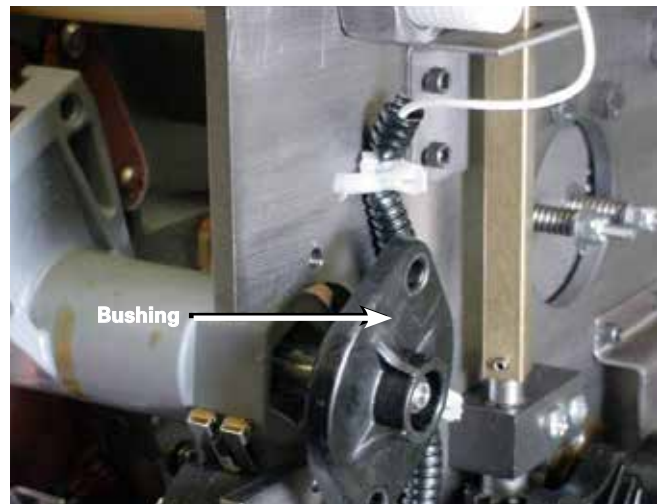

Figure 5. Removal of bushing.
3. Using a 7/16" wrench, loosen and remove both bushing-mounting bolts. See Figure 5.
4. Remove the bushing from the reversing movable contact shaft. See Figure 5.